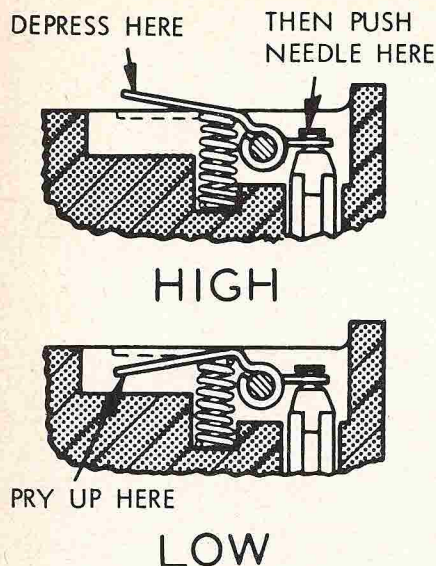

Fig. HL79—Drawing showing proper adjustment procedure for metering diaphragm lever.
poses. Drill a 1/8-inch hole through large plug (27) and a 1/16-inch hole through small (nozzle) plug, then pry plugs from bores. Note: Carefully drill the holes so as not to damage carburetor body; drill should be controlled so that it will just break through the plug. Install new Welch plugs after cleaning carburetor. Refer to Fig. HL79 and bend diaphragm lever as shown, if necessary, so that lever is flush with floor of diaphragm chamber as shown by dotted line.